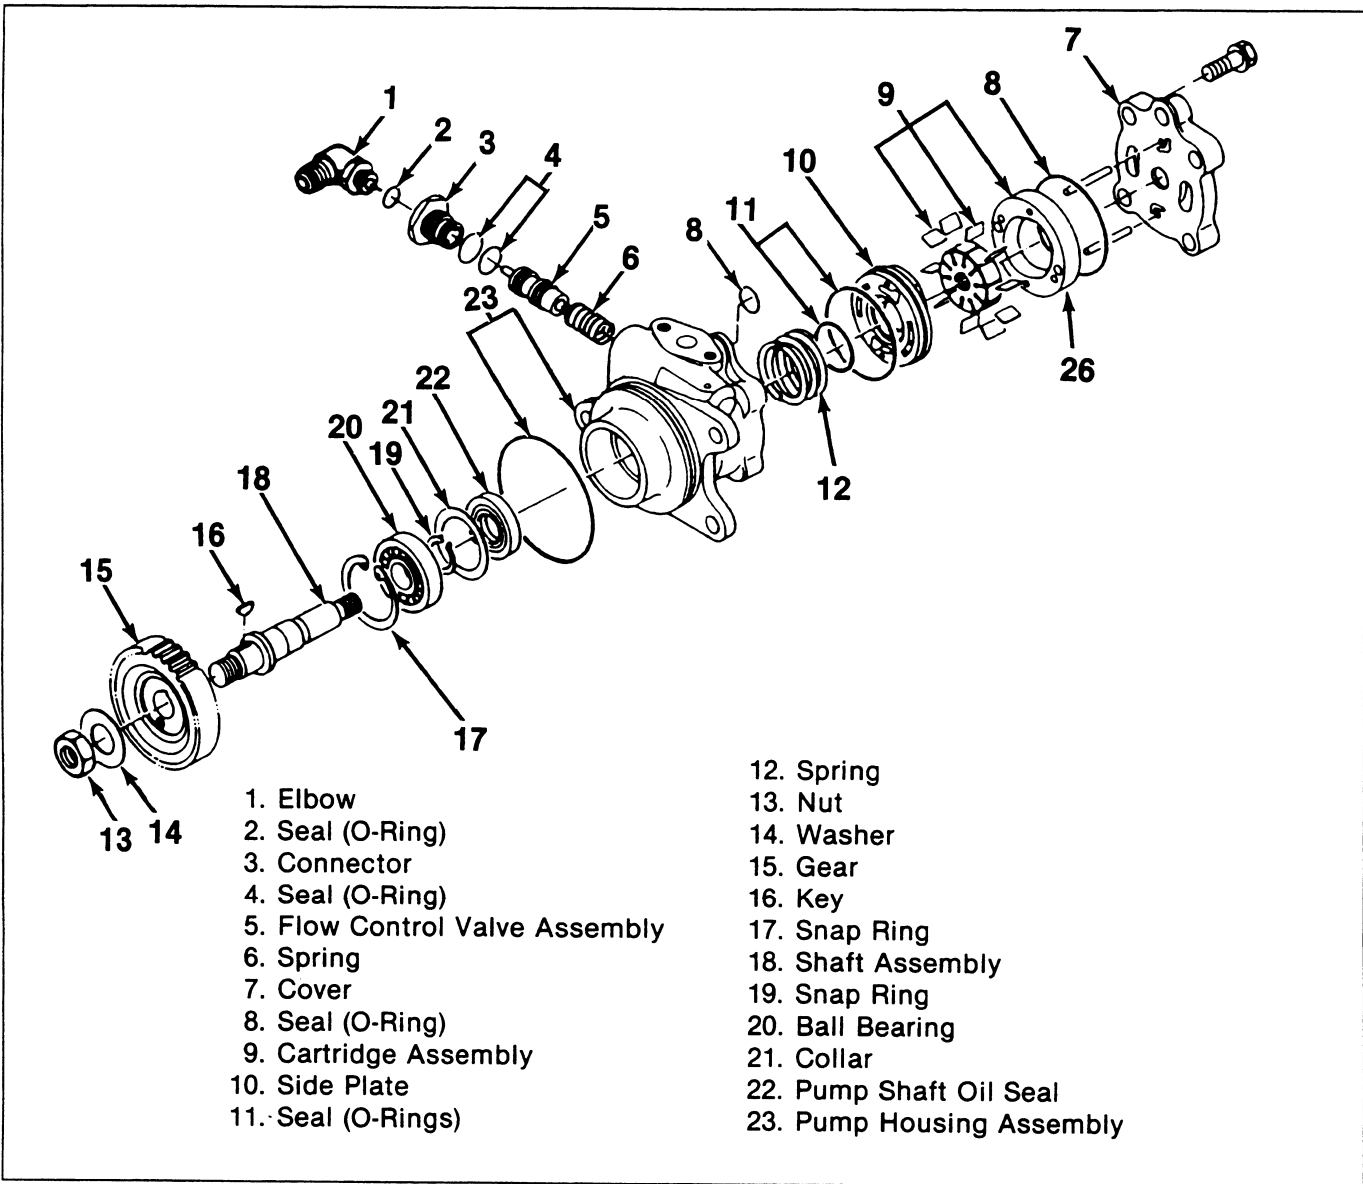

Figure 20. Power Steering Oil Pump
Disassemble (Figures 20, 21, 22 and 23)
1. Elbow (1), and seal (O-ring) (2) (figure 20).
2. Connector (3), seal (O-rings) (4), flow control valve assembly (5), and spring (6) (figure 20).
- 3. Cover (7), seal (O-ring) (8), cartridge assembly (9), side plate (10), seal (O-rings) (11), and the spring (12) (figure 20).
- 4. Nut (13), washer (14) and gear (15) (figure 20).
- 5. Key (16), snap ring (17) and the shaft assembly (18) (figure 20).
- 6. Snap ring (19), and ball bearing (20). A press and rod will be necessary to remove the ball bearing from the shaft (figures 20 and 22).
Inspect (Figure 20)
Assemble (Figures 20, 24, 25 and 26)
2. Collar (21) into the pump housing (23) (figure 20).
4. Snap ring (19) (figure 20).
5. Shaft assembly (18) into the pump housing assembly (23) (figure 20).
6. Snap ring (17) into the pump housing assembly (23) (figure 20).
7. Key (16), gear (15), washer (14), and nut (13) onto the shaft assembly (18). The long hub of the gear faces the pump housing assembly (figure 20).
10. Spring (12), seal (O-rings) (11), side plate (10), cartridge assembly (9), seal (O-ring) (8), and cover (7) to the pump housing assembly (23) (figure 20).